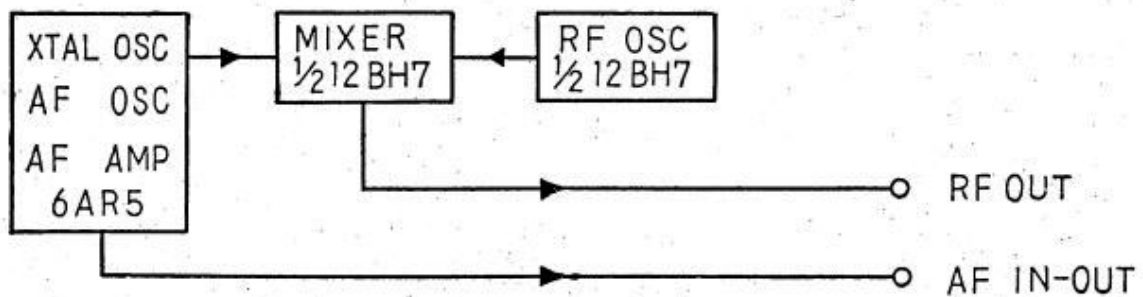

Fig. 1 Block Diagram
1. A simplified block diagram of the instrument is shown in Fig. 1.